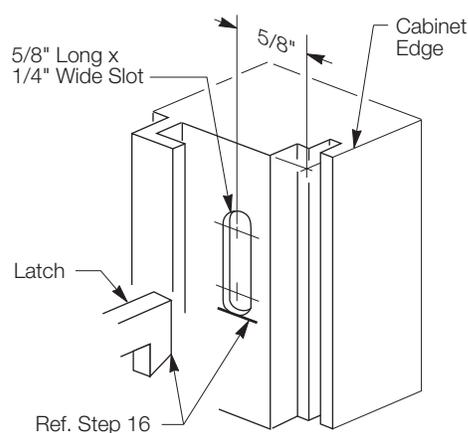

Fig. 5
Step 16 - Gently close door and mark cabinet at point where 45 degree surface of latch contacts cabinet face. (See Fig. 5) In a semi or full recessed application where latch visibility is difficult, chalk can be used to mark cabinet. Re-open and support door as necessary.
Step 17 - Mark a parallel line through latch location, 5/8" from edge of cabinet. Using this as the centerline and the mark made in Step 16 as the base, draw a 5/8" long x 1/4" wide slot on the cabinet. IMPORTANT: Direct the slot toward the area where the flat portion of the latch contacts the cabinet. (See Fig. 5)
Step 18 - Use a 1/4" diameter drill bit (not provided) and drill through cabinet at each end of slot. Do not drill beyond the first mark made in Step 16. (See Fig. 5)